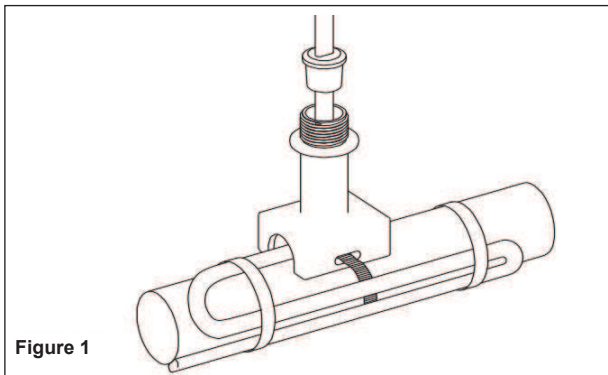

Figure 1
1. Insert heating cable through pipe standoff and grommet as shown. Eight inches of cable should extend past the grommet. Strap pipe standoff to pipe with pipe strap and attach extra cable to pipe as appropriate (Figure 1). For pipes smaller than 1-1/2" diameter a small pipe adapter (Chromalox model SPA not included) is required.